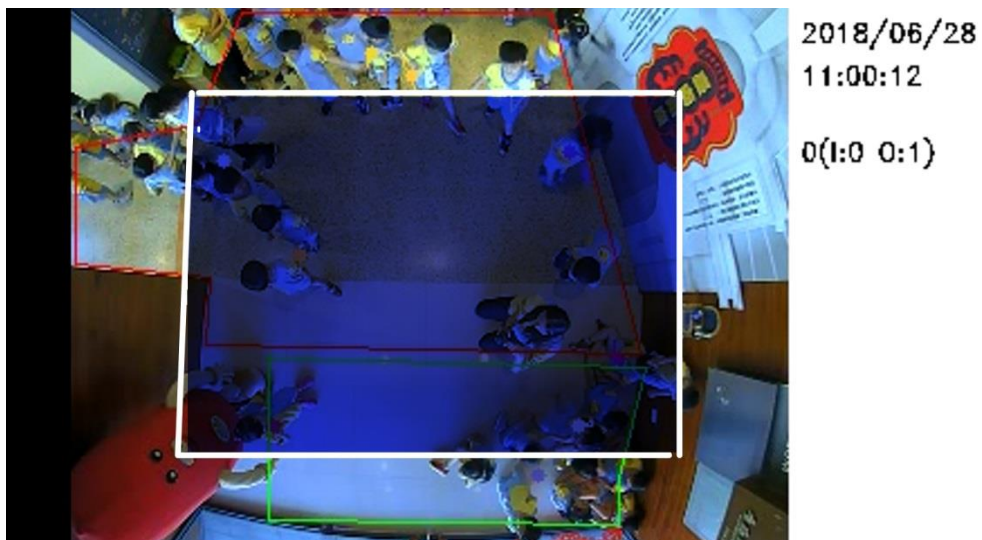

Figure-29 Efficiency Detection Zone
- (2) The efficiency detection zone is  $\frac{2}{3}$  area from the center of the captured image, Please make sure the two-area gap is inside of  $\frac{2}{3}$  area from the center of the captured image, especially when the counting circumstance is complicated (Figure-29).